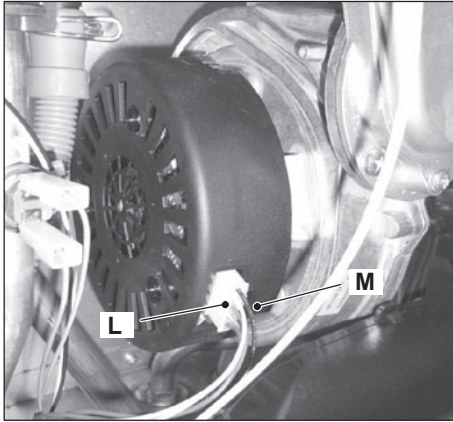

Fig. 9.7
- Disconnect the connector of the fan L by pressing the plastic hook M placed on the rear side of the connector (Fig. 9.7).